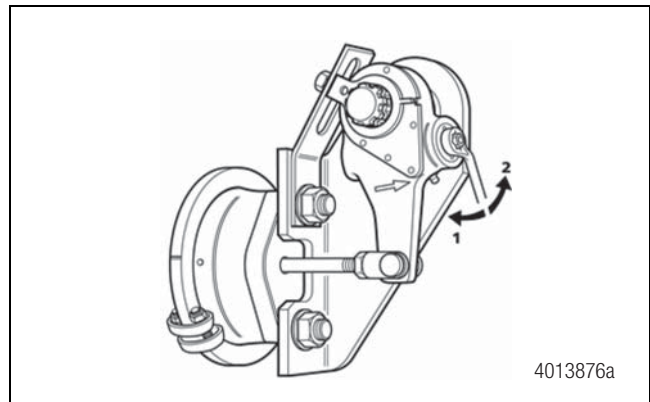

Figure 7
- Adjust the clearance by rotating the hex nut on the ASA clockwise (1) until the brake lining touches the brake drum, then back-off by rotating the hex nut a 3/4 turn counterclockwise (2). Backing-off produces a loud clicking noise. Figure 7.